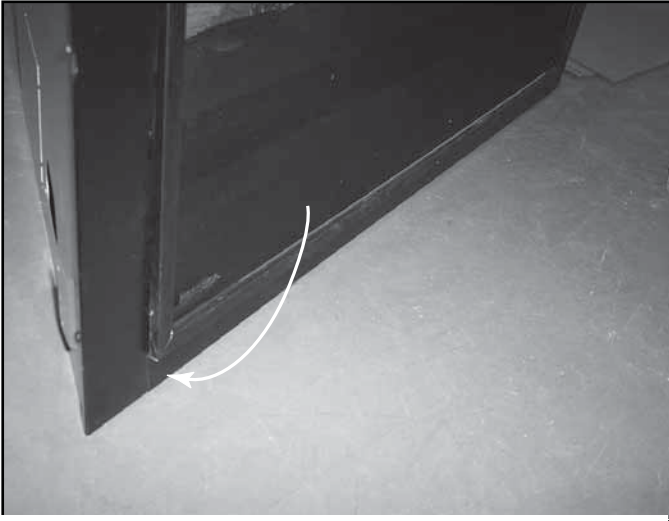

Figure 11.19 Rotate the Screen Down
- Rotate the screen in at the bottom until it touches the magnetic touch latches. See Figure 11.19.